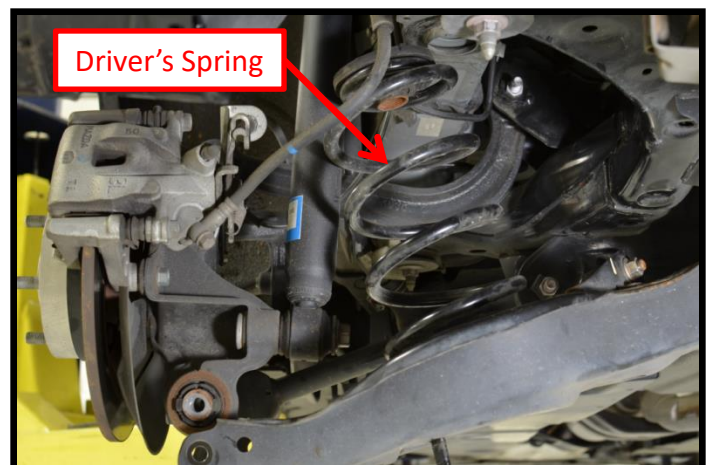

Figure 2e
- g) Remove the spring to gain room and slide the swaybar out. Figure 2e shows the spring lose it will easily come out. Do not loose the piece on the top of the spring.